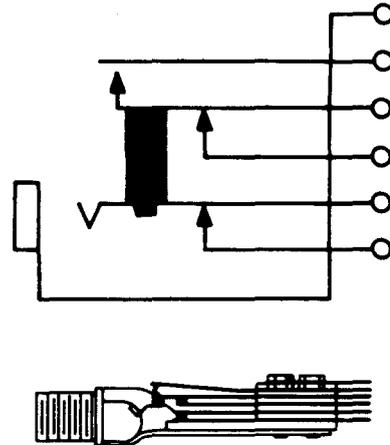

Fig. 1—626E Jack
2.01 **626E:** The 626E jack (Fig. 1) consists of a single-mounted telephone-type jack. This jack is used with the 347 plug and has a machine formed frame. The jack is designed to mount by means of a nut on a threaded sleeve. The nut and washer are shipped loose. The 626E jack is initially used with an emergency alarm circuit.